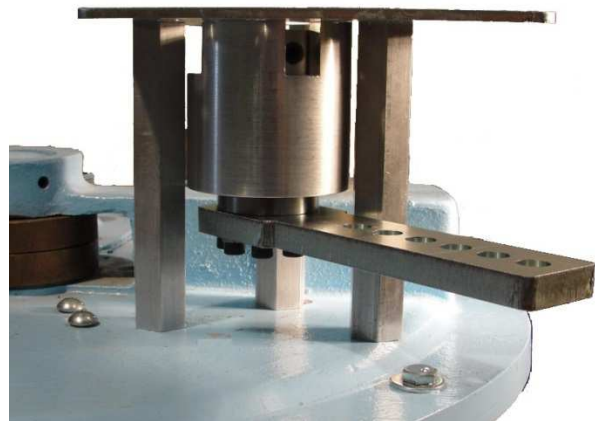

Figure 9: Bearing Block Installed
8. Place a small amount of medium threadlocker on the #10-24 x 0.44" flat head screws. Install the bearing block assembly onto the actuator base plate by threading the screws through the plate and into the bearing block with the lever arm at approximately the 8 o'clock position. Figure 9 shows the assembly after this step.